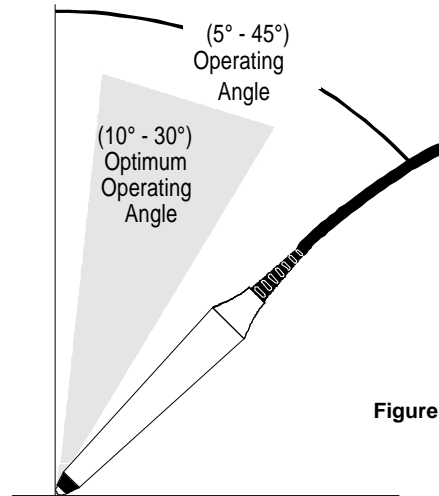

Figure 2
- 2) Hold the BCR in your hand as you would a pencil. The BCR works best when tilted from  $10^{\circ}$  to  $30^{\circ}$ , although any angle from  $5^{\circ}$  to  $45^{\circ}$  will work. See Figure 2.